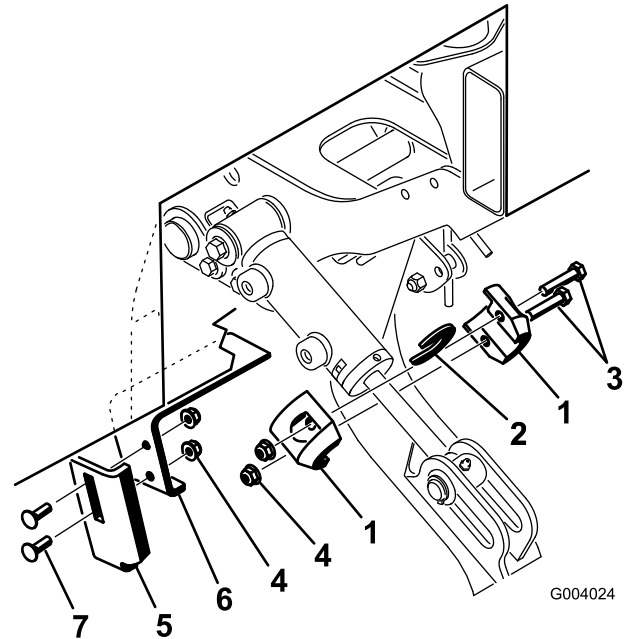

Figure 1
2. Install the cylinder collars to the extended cylinder rod with 2 bolts and 2 flange locknuts (Figure 1). Make sure the cylinder collars fit over the top of the cylinder.
3. Loosely install the stop bracket to the deflector bracket with 2 carriage bolts and 2 locknuts (Figure 1).
4. Move the stop bracket to the highest position on the bracket and tighten the flange locknuts (Figure 1).
2. Install the cylinder collars and the spacer to the extended cylinder rod with 2 bolts and 2 flange locknuts (Figure 1). Make sure the cylinder collars fit
4. Move the stop bracket to the lowest position on the bracket and tighten the flange locknuts (Figure 1).